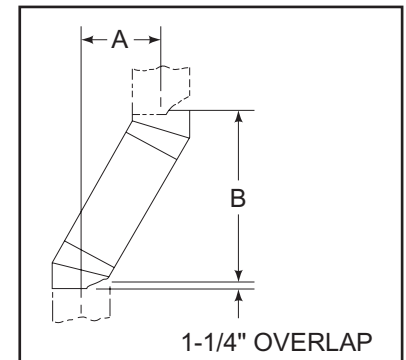

Figure 11A - Chimney Offset/Return
- 1) Measure how far the chimney needs to be shifted to enable it to avoid the overhead obstacle. See Figure 11A, dimension “A” to determine chimney sections required to achieve the needed shift.
Example: Your “A” dimension from Figure 11A is 14-1/2”. Using Table 1 the dimension closest to, but not less than 14-1/2” is 14-5/8” using a 30° offset/return. It is then determined from the table that you would need 33” (Dimension “B”) between the offset and return. The chimney components that best fit your application are two SL312s.